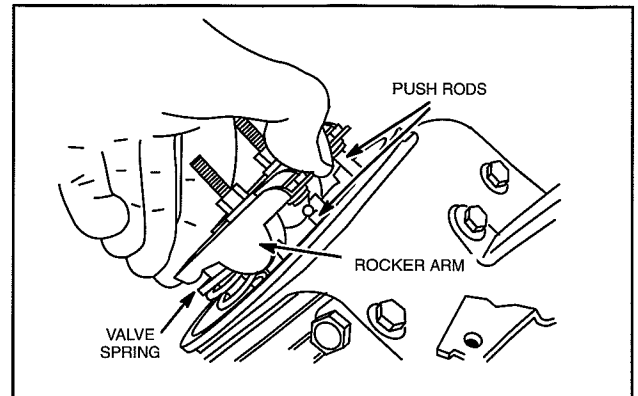

Fig. 20 – Compress Valve Springs
1. Compress valve springs and remove push rods, Fig. 20.